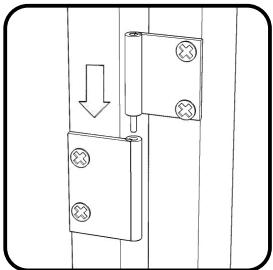

Figure 6
Attach Doors (L) and (M) by sliding door hinges into side panel hinges. (See Figure 6)